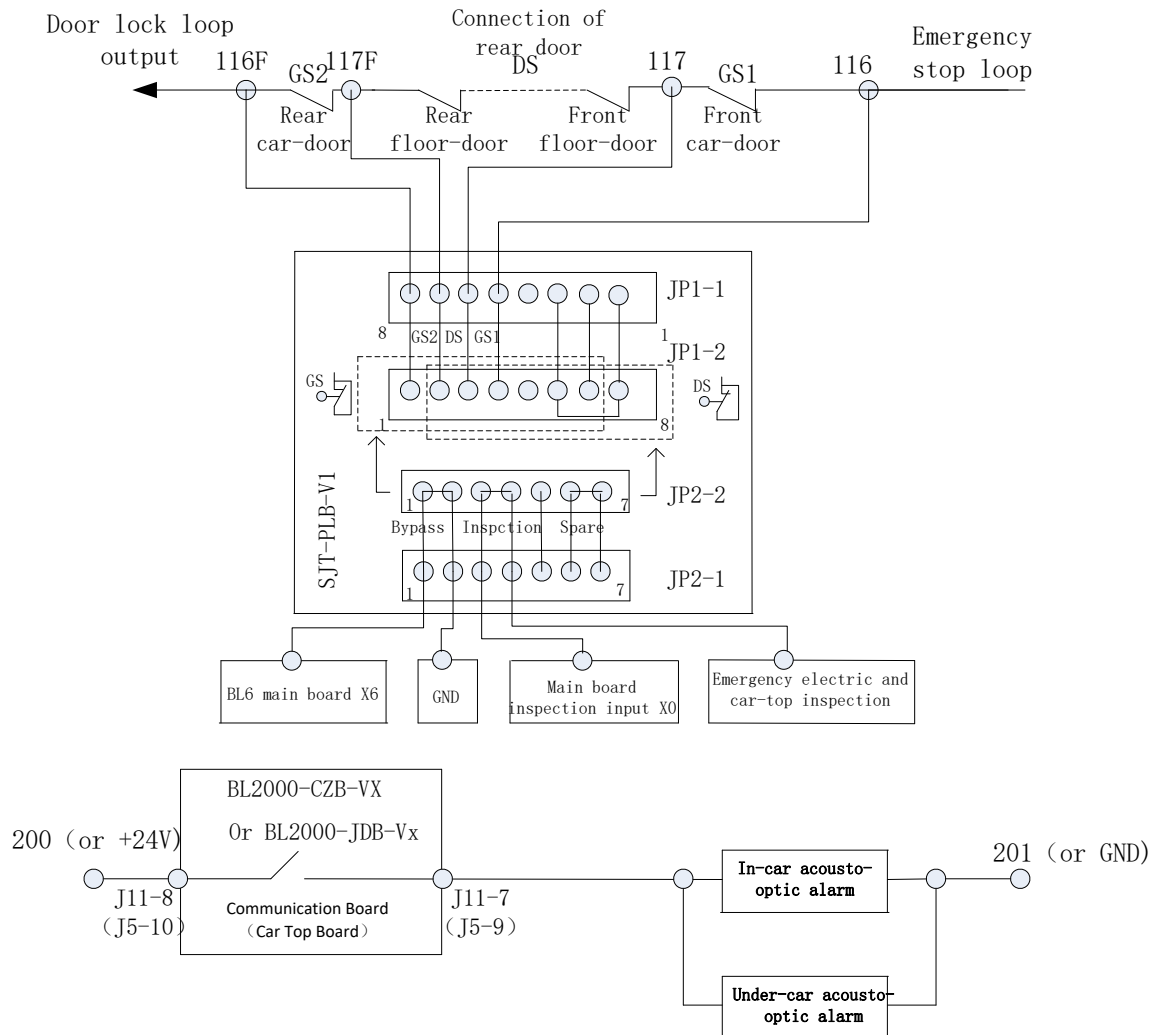
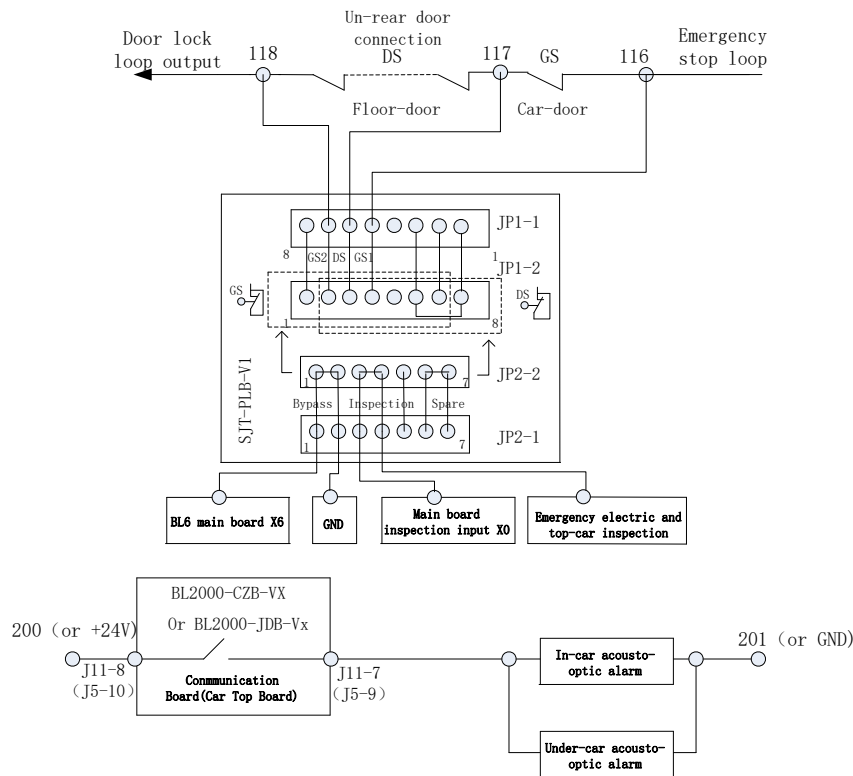

Figure F12.6 V9 series elevator integrated controller rear door bypass plan
Figure F12.7 V9 series elevator integrated controller un-rear door bypass plan
- 1、 Using a SJT-PLB-V1 dedicated bypass circuit board, such as figure F12.6 and figure F12.7, to use a 7 pin JP2-2 and an 8 pin JP1-2 plug-in with a 7 pin plug (out of factory) to achieve bypass operation.